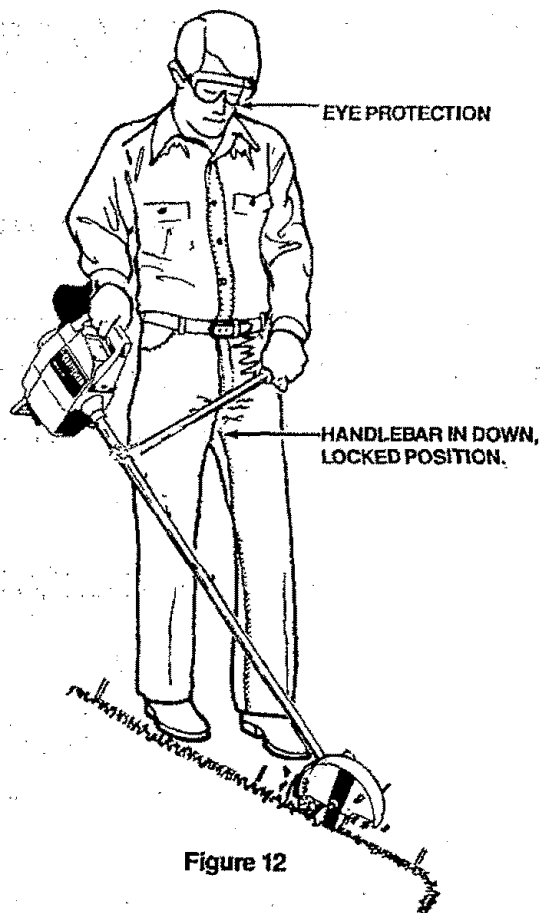

Figure 12
8. Operate the edger from the right side of the body only. The correct operating position is shown in Figure 12.